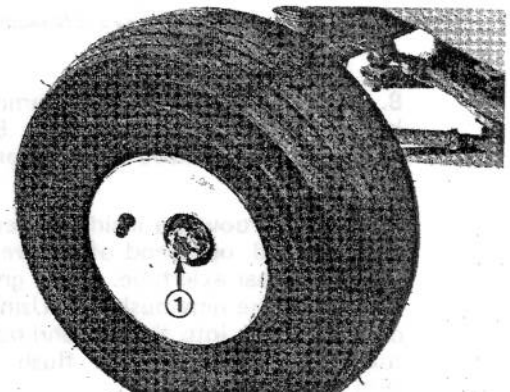

Figure 63
7. Slide wheel assembly onto spindle shaft and secure it in place with flatwasher and slotted nut (Fig. 63). Do not tighten the nut and do not install the cotter pin.